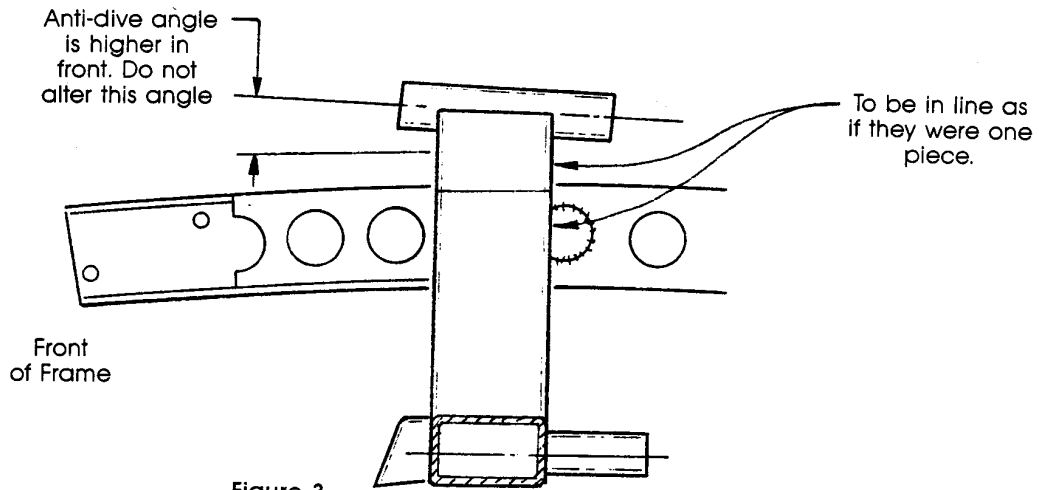
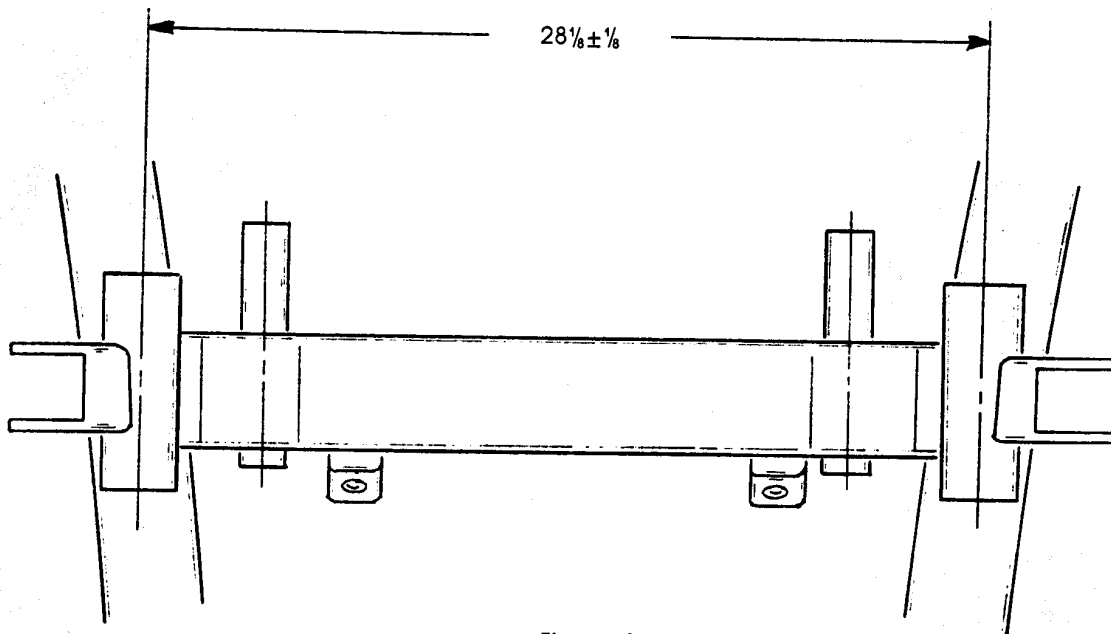

Figure 3
Figure 4
6. The upper control arm mounts are next. See Figure 3. They are positioned with the anti-dive angle of the upper arms higher in front, as shown. The upper mount should line up with the main crossmember and should contact the entire top ends of the crossmember. If the upper mounts do not fit up to the crossmember, grind the edges of the upper mounts where they sit on the frame. If there is a gap between the frame and the upper mounts, grind the edge where the upper mounts contact the crossmember. Care must be taken, however, to grind an equal amount off the entire edge so the angle of the upper mounts is not changed. Now check the dimension across the upper arm cross tubes. That dimension should be 28-1/8" \pm 1/8". It is more important that the tubes are parallel and square as viewed from the top than exactly that dimension. See Figure 4. Again, cross measuring, squareness and accuracy cannot be overstressed at this stage, as the closer the installation is at this point, the easier your final wheel alignment will be. Good, strong welds are also required here, as the weight of the car hangs on the upper coil-over mounts.